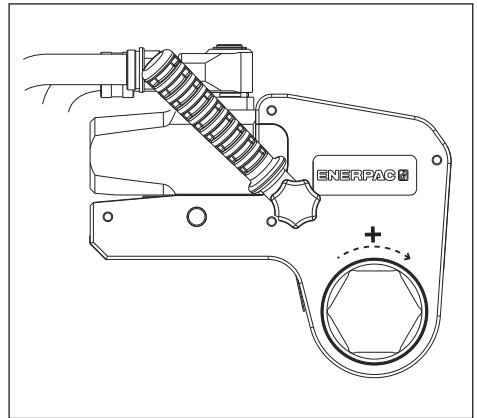

Fig. 9
4.3.1 Tightening a Nut or Bolt (Fig. 9 and 10)
- Position the reaction foot (18) against a suitable reaction point (19). The reaction point will counteract the force caused by operating the tool.